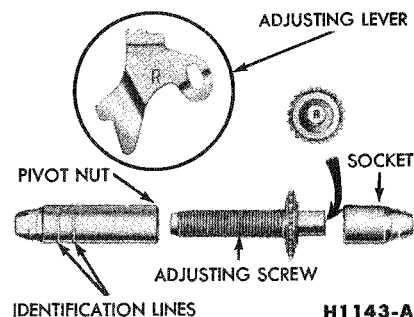

FIG. 7—Adjusting Screw and Lever Identification
cause the brake shoes to retract rather than expand each time the automatic adjusting mechanism operated. To prevent installation on the wrong side of the truck, the socket end of the adjusting screw is stamped with an R or L (Fig. 7). The adjusting pivot nuts can be distinguished by the number of lines machined around the body of the nut. Two lines indicate a right-hand nut; one line indicates a left-hand nut.
10. Hook the cable hook into the hole in the adjusting lever from the backing plate side. The adjusting levers are stamped with an R or L to indicate their installation on a right or left-hand brake assembly (Fig. 7).